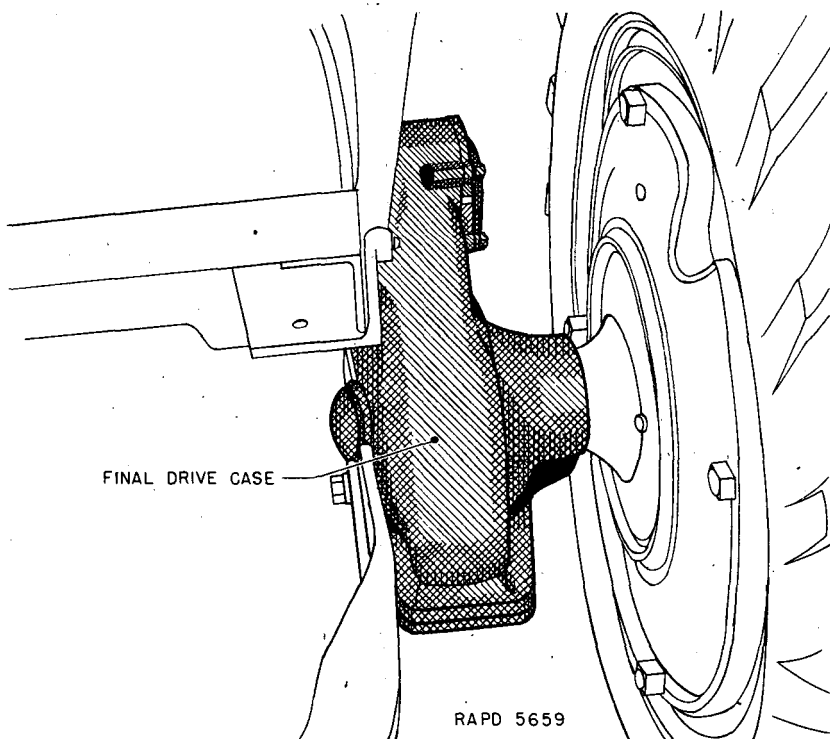

FIGURE 22.—Final drive case.
58. Final drive.—*a. Description.*—A housing for the final drive gears (figs. 22 and 23) is attached to each side of the transmission case by four studs and nuts. A pinion shaft connects the final drive reduction gearing with the differential and transmission. Keyed to each pinion shaft is a brake drum through which the hand brake acts to stop the rear wheels. At the outer end of each pinion shaft is mounted a small final drive gear which meshes with a large final